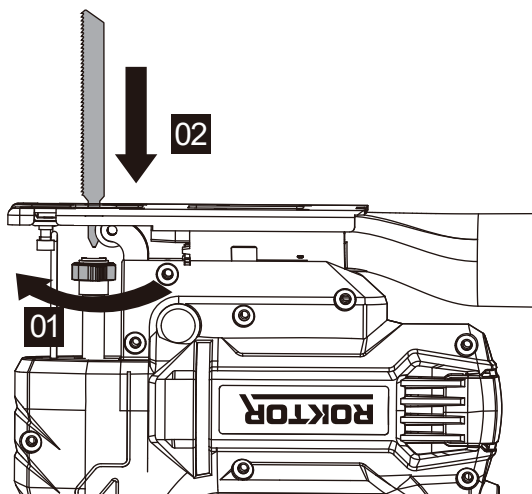

Figure 1
1. BLADE FITTING (SEE FIG. 1 & 2)